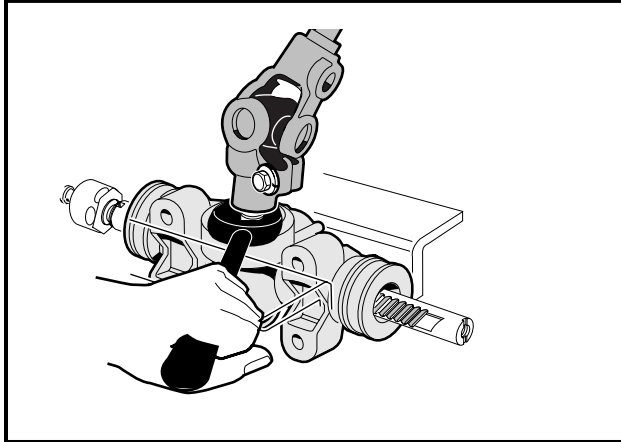
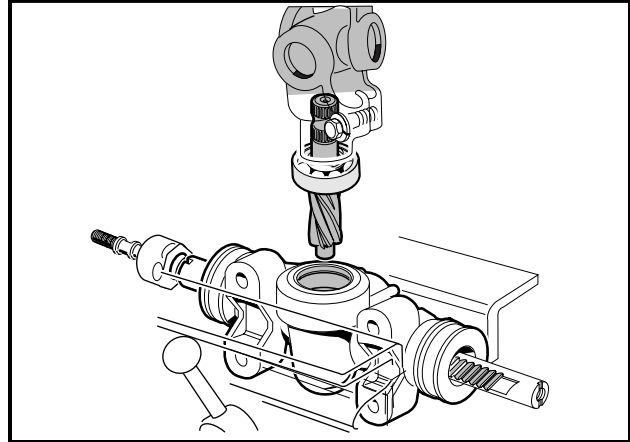

Figure 7-16 Remove Pinion
Figure 7-17 Remove Pinion Gear Assembly
9. Install the universal joint onto the pinion and place a fork or a large open end wrench under the universal joint (**Figure 7-16, Page 7-10**). Gently pry the pinion from the housing (**Figure 7-17, Page 7-10**).